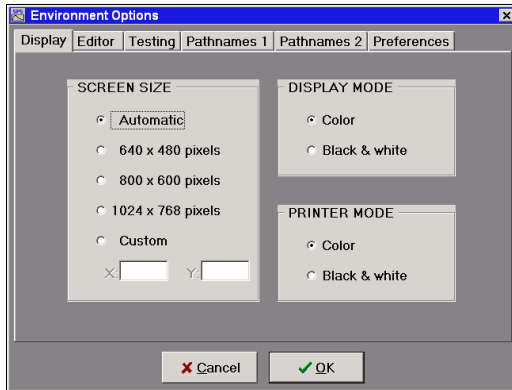

Fig. 12: Register »Display«
- On the register *Display* you can adjust the size of the program window and the kind of screen mode. (See Fig. 12)